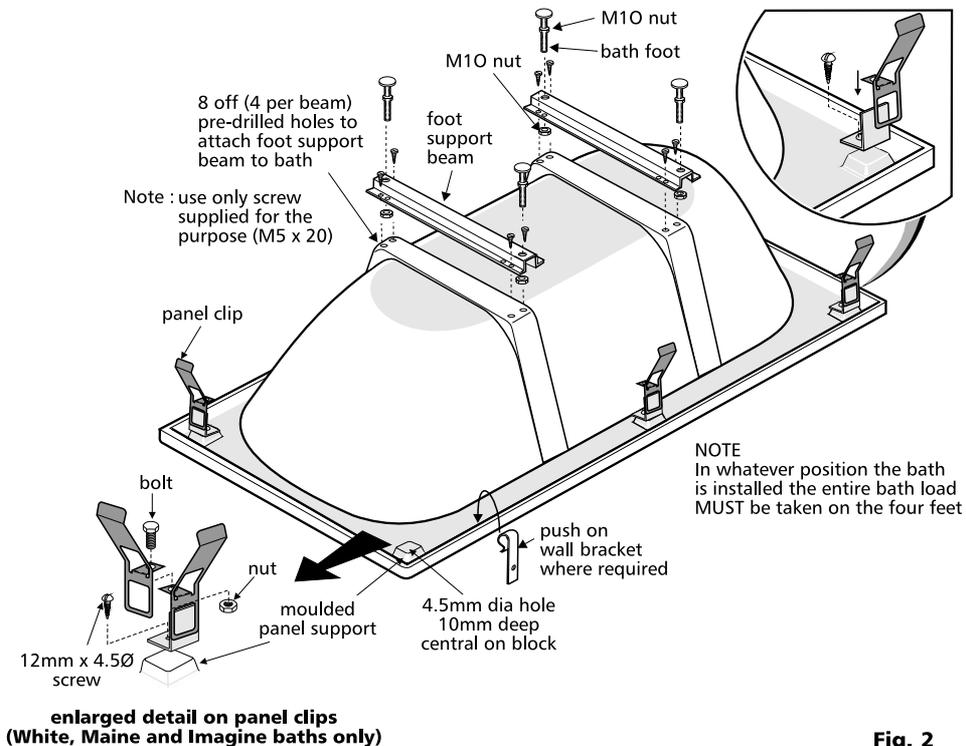

Fig. 2
2. Fit bath foot support beam (Fig. 2) to the base of the bath using pre-drilled holes and wide helix self tapping screws provided, M5 x 20.
3. Fix the four feet (Fig. 2) and adjust to give approximate floor to rim height.
5. White, Maine, Ventuno and Imagine baths only Fit panel clips (Fig 2), 3 for front panel and 2 for end panel.